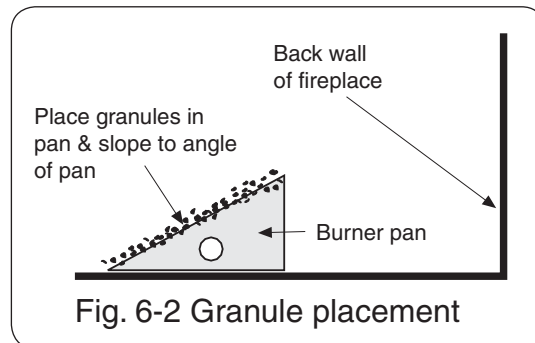

Fig. 6-2 Granule placement
- Slope the granules at the same angle as the burner pan. This is important to ensure quiet lighting and even flame distribution (see Fig. 6-2).